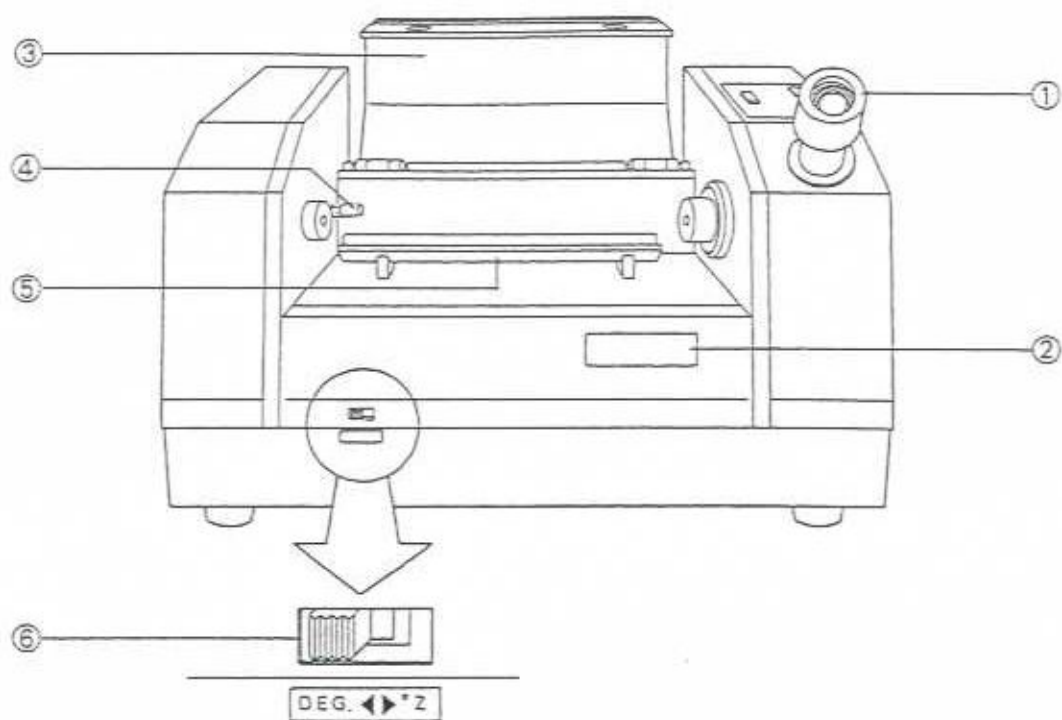

Figure 3-1
(1) Front side (Figure 3-1)
① Eyepiece: